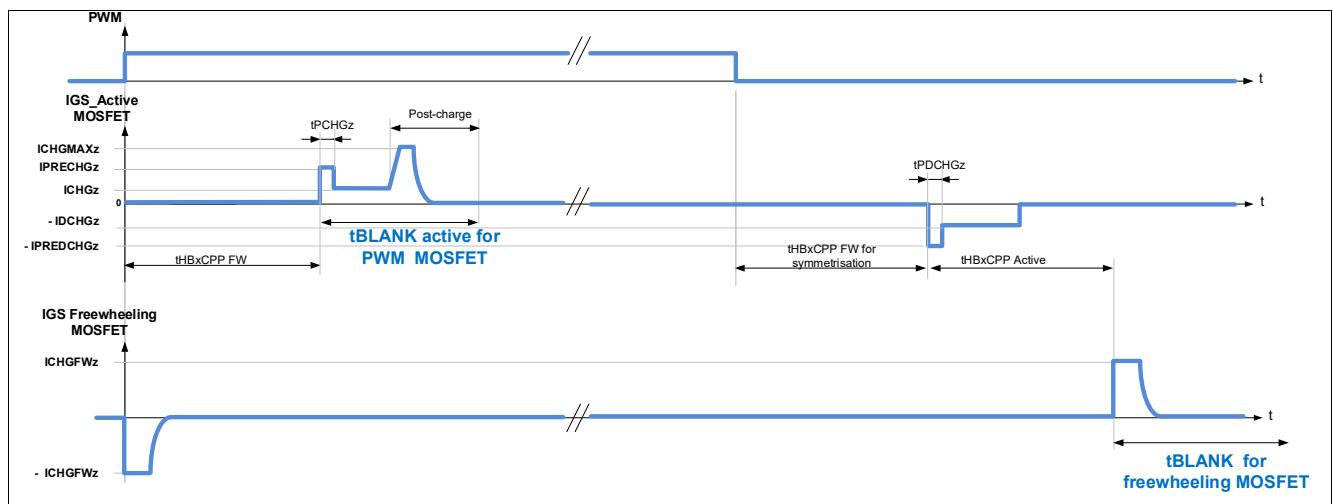
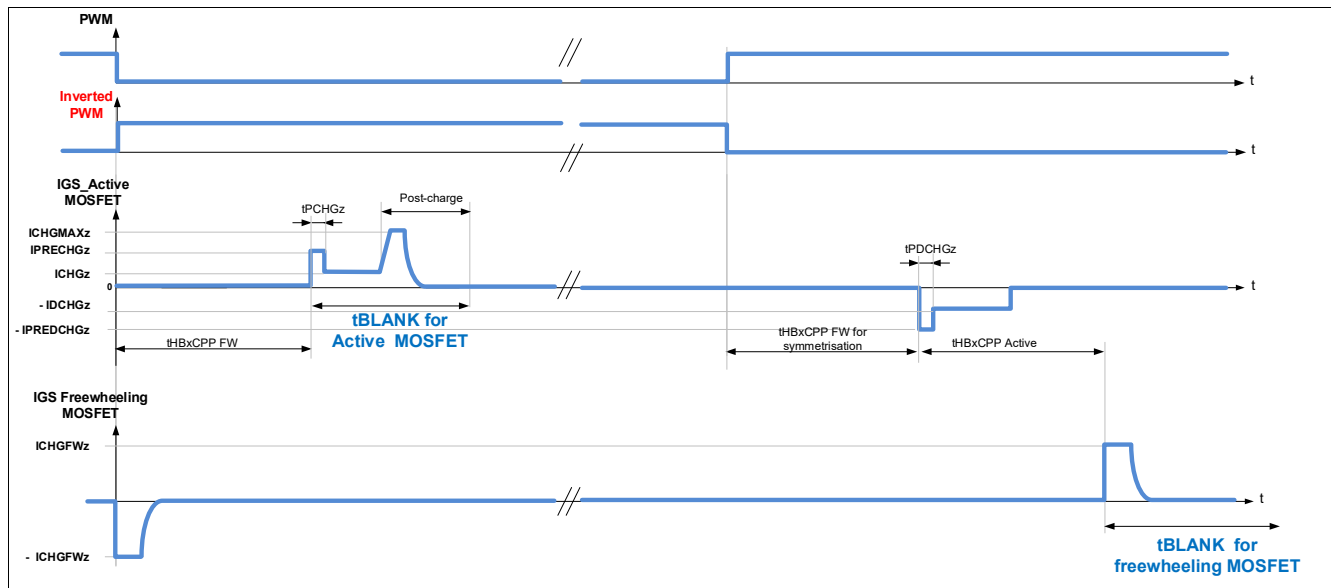

Figure 34 Blank time for half-bridges in PWM operation, detection of generator mode enabled ($EN_GEN_CHECK = 1$), motor operating as load
Figure 35 Blank time for half-bridges in PWM operation, detection of generator mode enabled ($EN_GEN_CHECK = 1$), motor operating as generator
- The blank time of the Active MOSFET starts at the expiration of the cross-current protection time of the FW MOSFET (t_{HBxCCP} FW). Refer to **Figure 34** and **Figure 35**.
- The blank time of the FW MOSFET starts after expiration of the cross-current protection time at turn-off of the Active MOSFET (t_{HBxCCP} Active). Refer to **Figure 34** and **Figure 35**.